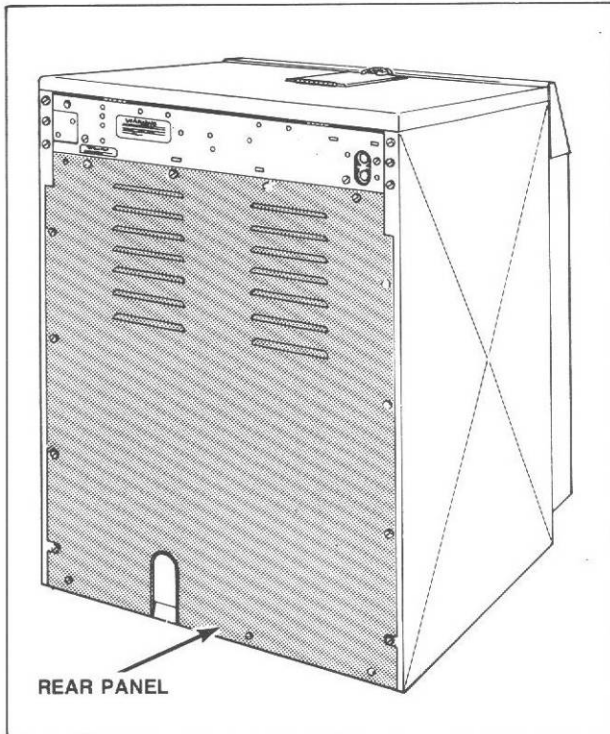

Figure 27
- d. Remove rear panel, *Figure 27*.